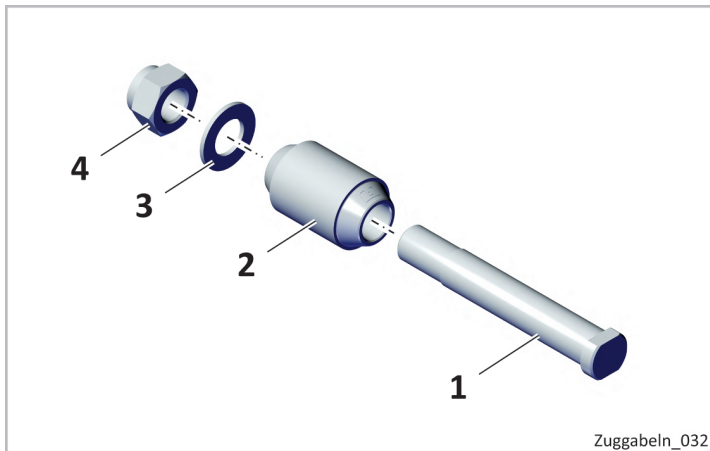

Figure 8: Fastening materials with silent bush
The mounting parts shown in Fig. 8 are used to secure the drawbar to the bogie. When the self-locking nut (4) is tightened, the silent bush (2) achieves its clamping action, which ensures radial motion by means of the rubber element, see "Tightening torque of self-locking nut".